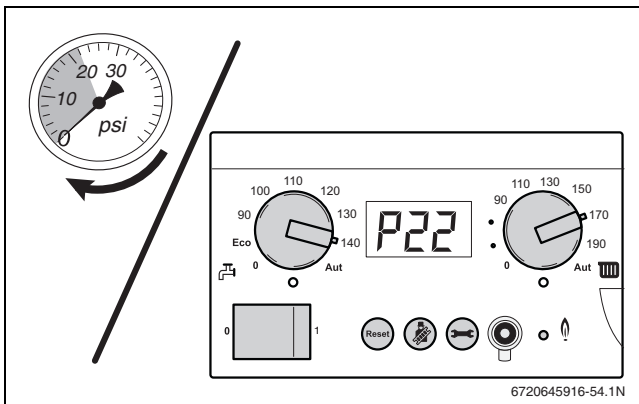

Fig. 57 Reading the pressure gauge
- Read the pressure (PSI) from the pressure gauge on the pump group or on the control panel of the BC10 (→ fig. 57).